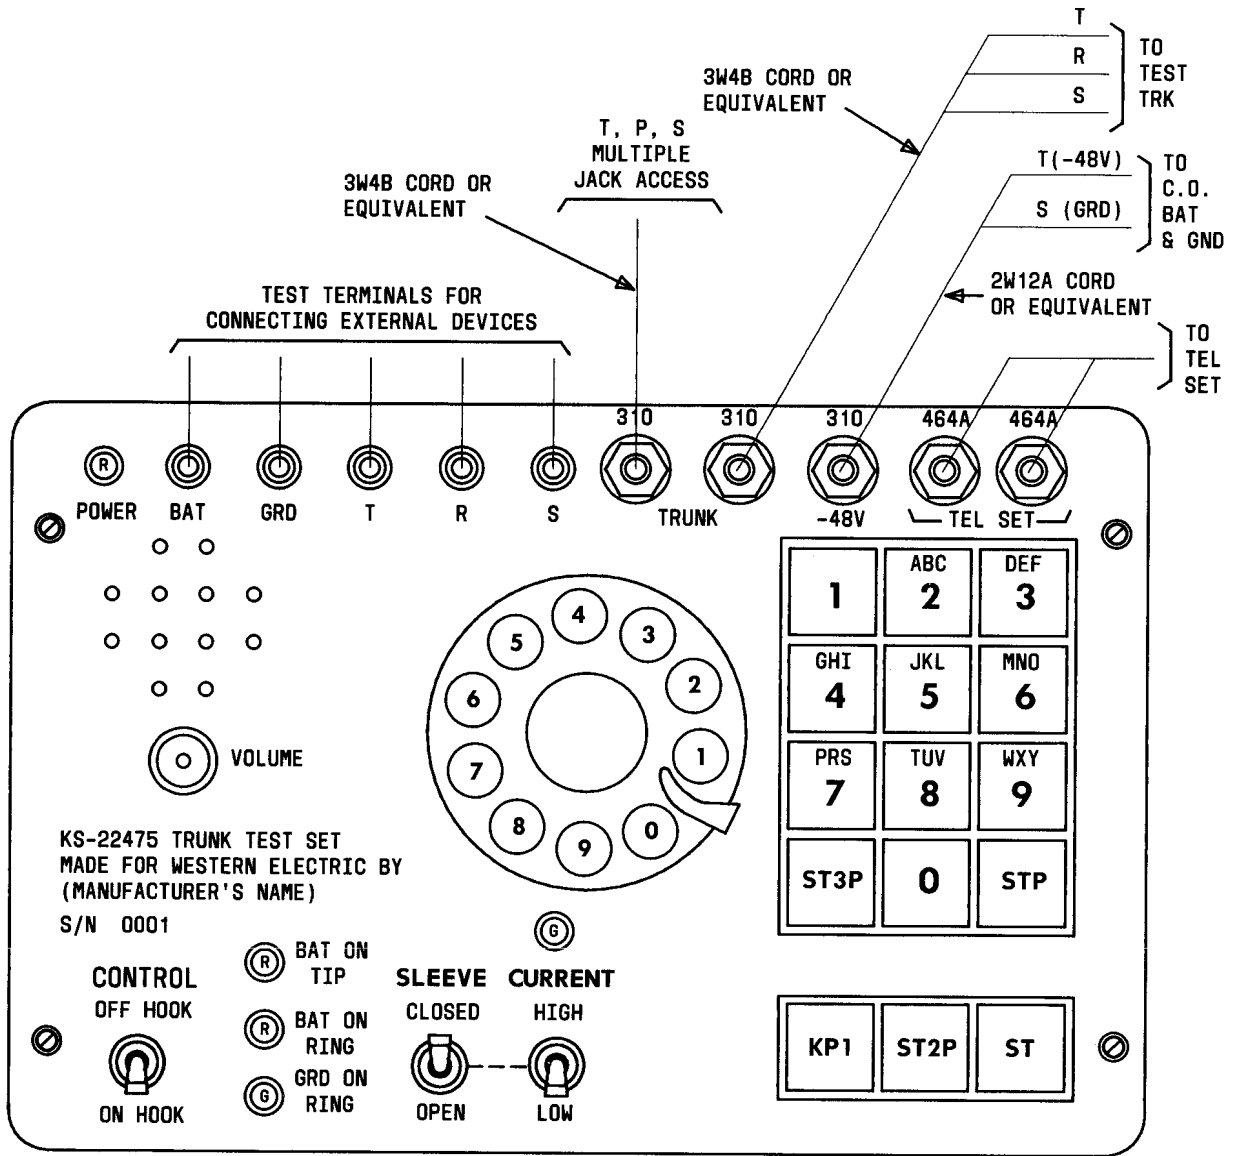

Fig. 2—Typical Setup for KS-22475 Trunk Test Set (TTS)
2.05 The following describes how battery and ground and test trunk circuit leads (T, R, and S) are connected to the KS-22475 Trunk Test Set (TTS) (see Fig. 2).
- 4 Use T, R, S, BAT, and GRD test terminals on TTS when external devices are required (refer to Fig. 2).